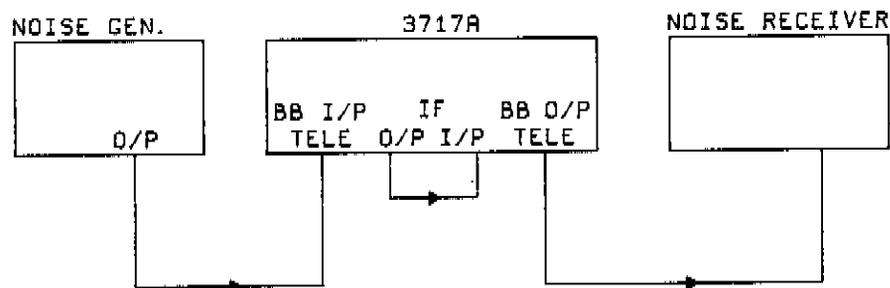

Figure 4-16 Telephony Noise Loading Test
1. Connect the White Noise Test Set as shown in Figure 4-16 with the 60kHz High-pass and the 8160kHz Low-pass